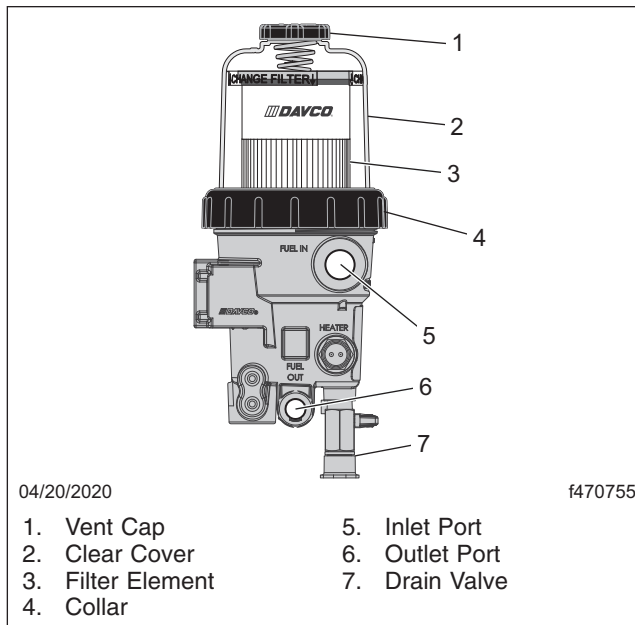

Fig. 3, DAVCO Fuel Pro 385
The drain valve (Fig. 3, Item 7) has a 3/4-inch (19-mm) slip-on hose connection.
- Remove the vent cap, shown in Fig. 3, to drain the fuel completely, then close the drain valve.
- Remove the filter, cover O-ring, and vent cap O-ring. Dispose of them in an environmentally acceptable manner. See Fig. 3.